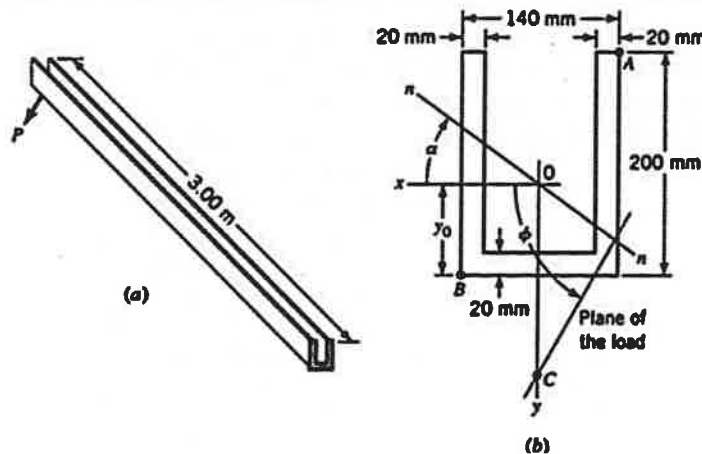
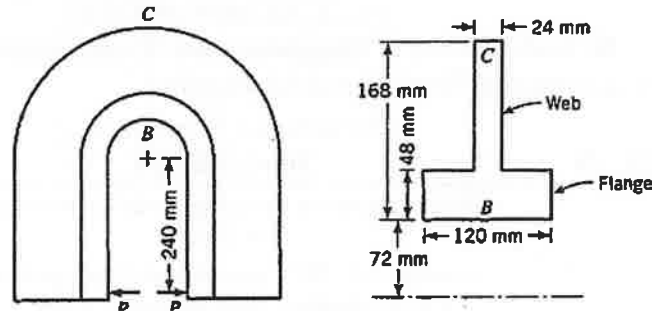

Fig. 1
Fig. 2
- 11.A). The cantilever beam in Fig. 1(a) has a channel section as shown in Fig. 2(b). A concentrated load $P = 12 \text{ kN}$ lies in the plane making an angle $\phi = \pi/3$ with the x - z plane. Load P lies in the plane of the cross section of the free end of the beam and passes through shear center C . Locate points of maximum tensile and compressive stresses in the beam and determine the stress magnitudes. 10M
12. A). The curved beam in Fig. 2 is subjected to a load $P = 120 \text{ kN}$. The dimensions of section BC are also shown. Determine the circumferential stress at B and radial stress at the junction of the flange and web at section BC. 10M